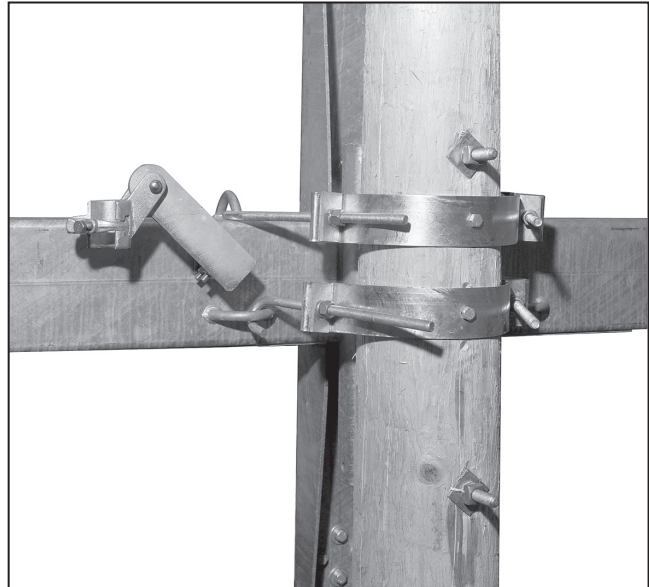

Figure 15. Attaching pole bands.
**STEP 13.** Attach the pole bands to the switch base anchor brackets using the J-bolts furnished. Use a stiffening block under each nut. See Figure 15.